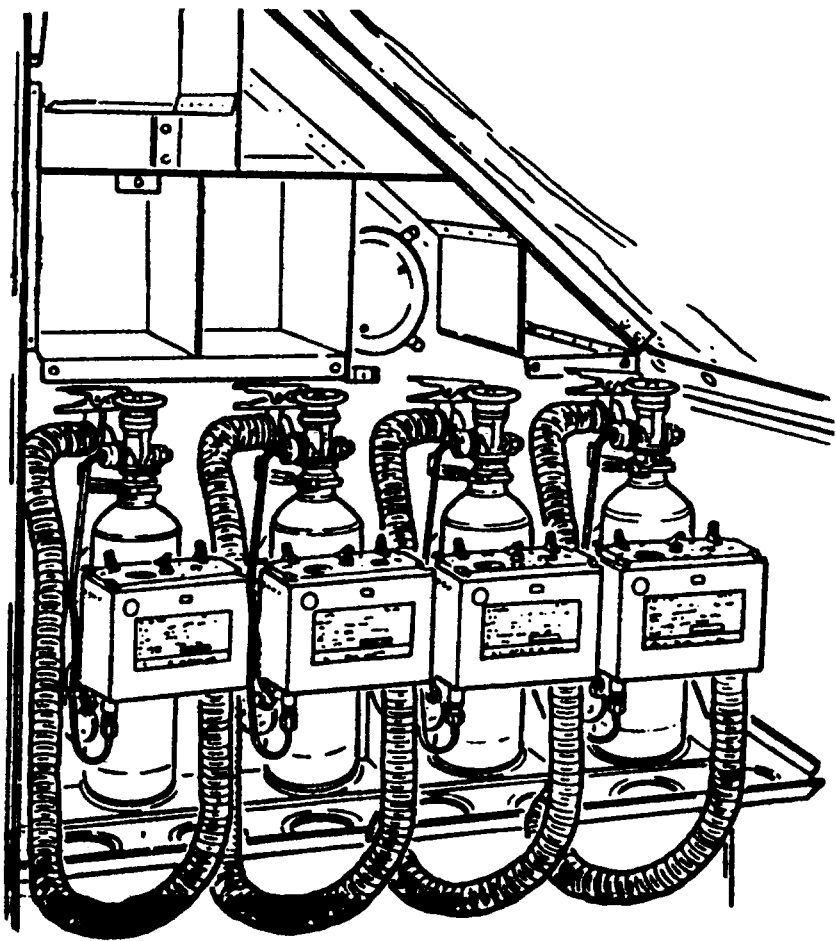

Figure 12-3. Typical Storage of Portable Oxygen System on Aircraft
**12-24. STORAGE OF PORTABLE OXYGEN SYSTEM ABOARD THE AIRCRAFT.** Figure 12-3 shows typical storage aboard the aircraft.